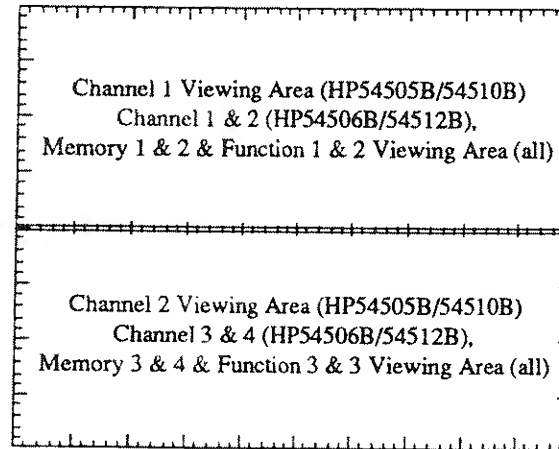

Figure 7-2. Dual Screen Display
- 2: the display area is divided into two screens. Channel 1 (HP 54505B/54510B) or channels 1 and 2 (HP 54506B/54512B) are displayed in the top screen and channel 2 (HP 54505B/54510B) or channels 3 and 4 (HP 54506B/54512B) are displayed in the bottom screen (See figure 7-2).